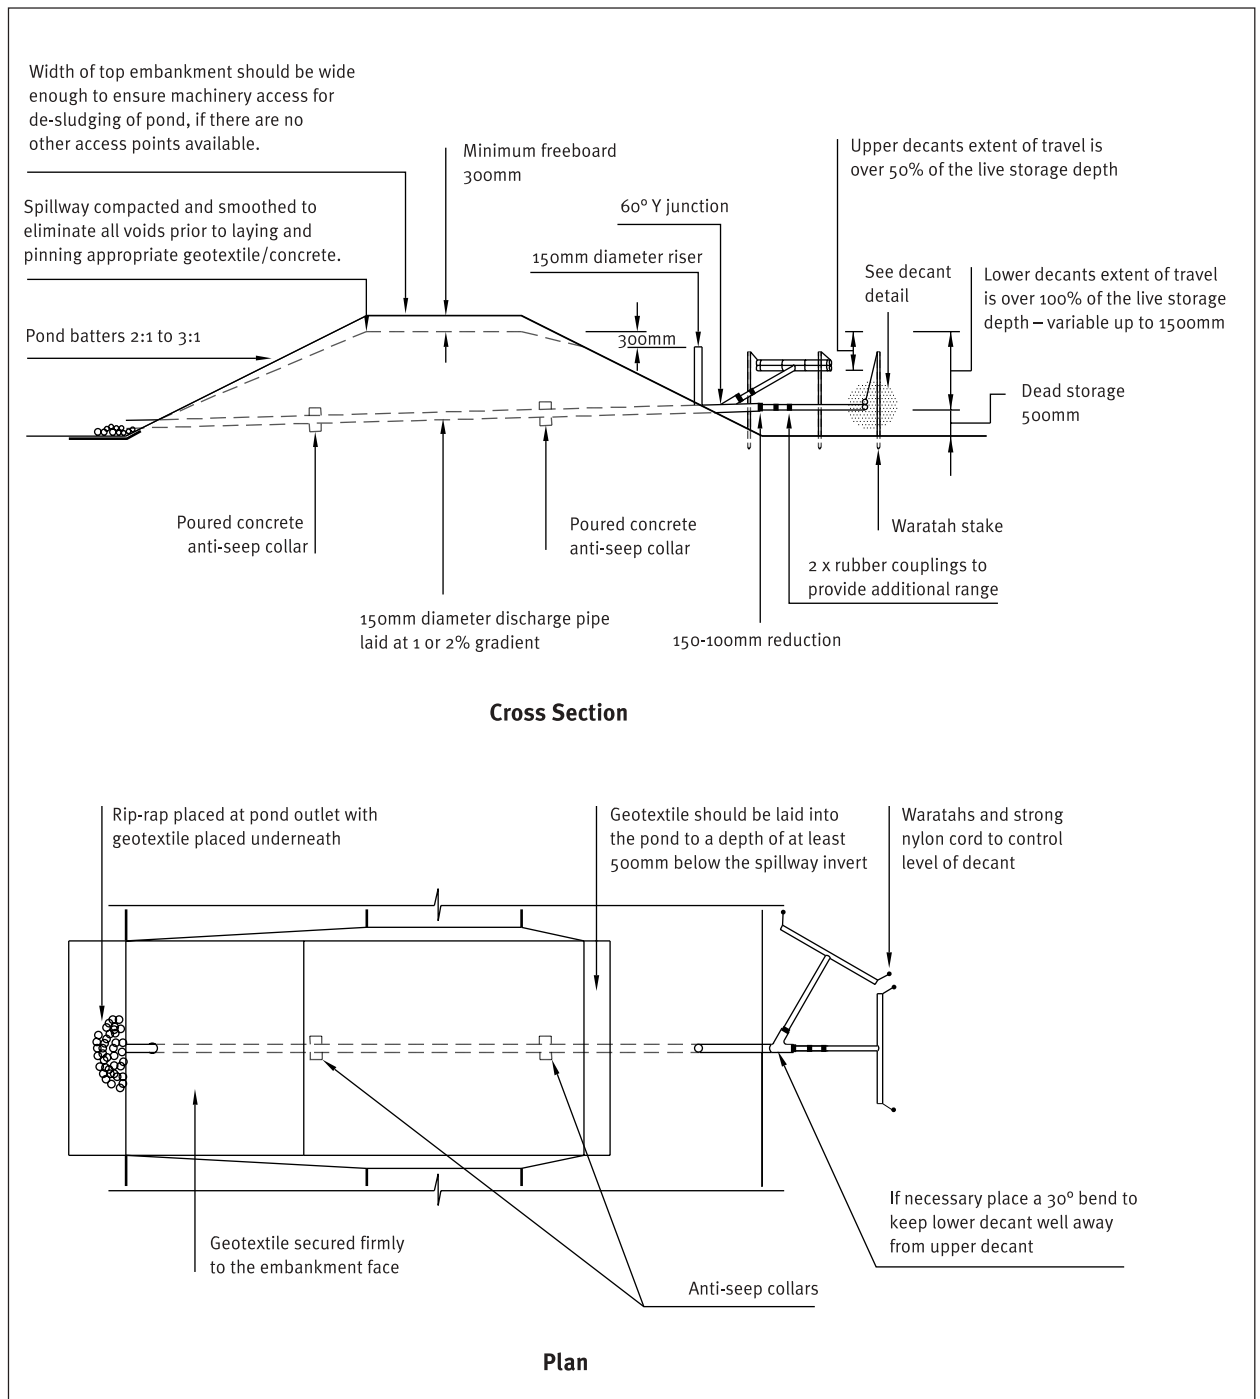

Figure 2.1.3 Sediment Retention Pond for Catchments Between 1.5 and 3 ha
- For larger catchments (greater than 1.5ha) the Sediment Retention Pond requires a piped primary spillway (refer Figures 2.1.3 and 2.1.4).